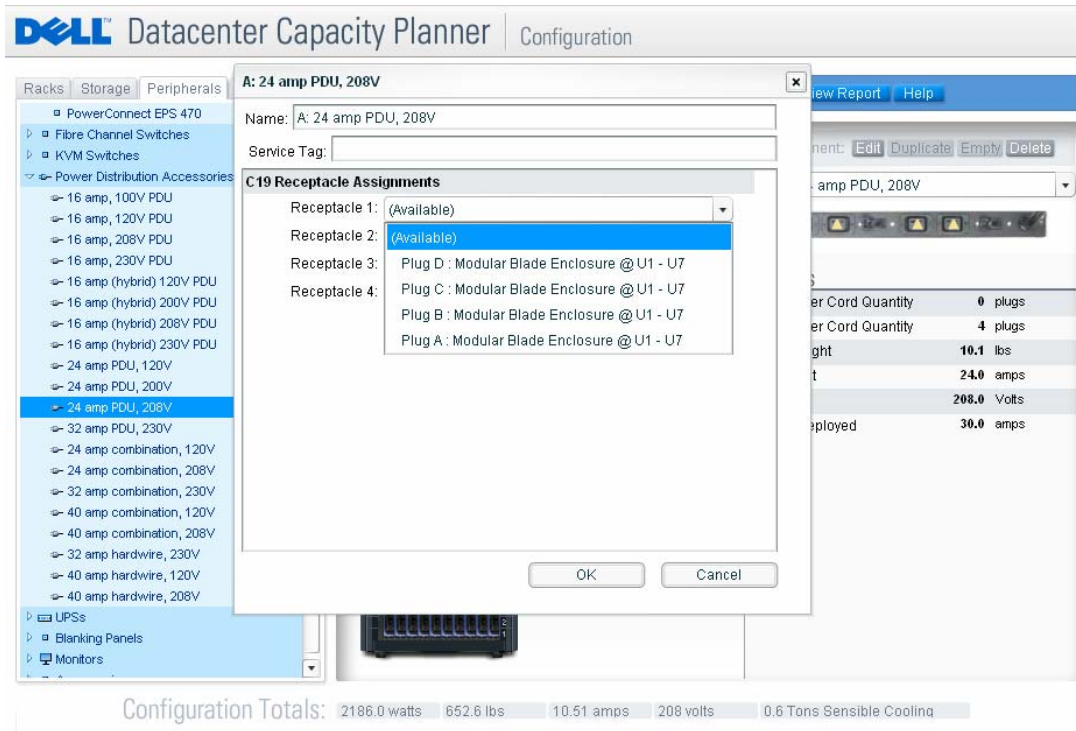

Figure 4 – Plugs Assigned to PDU
- o Clicking on the edit menu will bring up the edit box to allow servers to be assigned to each of the plugs. In Figure 4, two of the system’s plugs are assigned to one PDU, and that PDU is renamed.